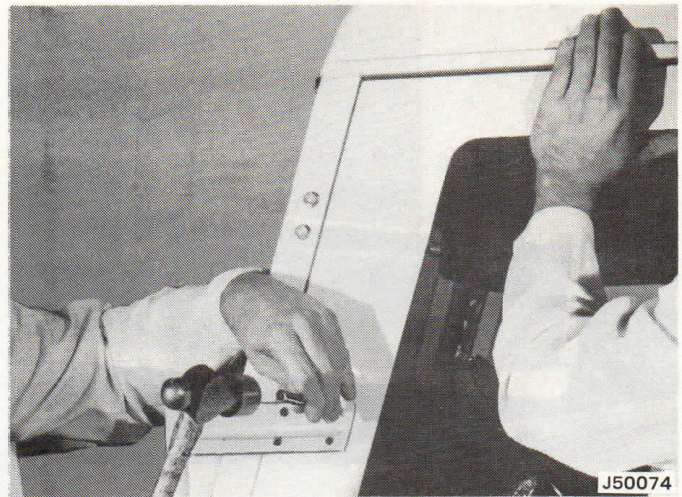
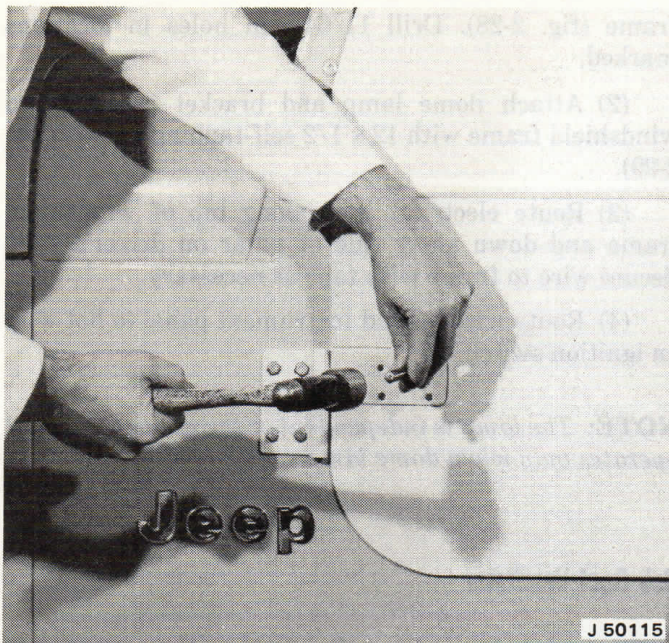

Fig. 2-22 Marking Hole Locations for Upper Male-Half Hinges
Fig. 2-23 Marking Hole Locations for Lower Hinge
(1) Place each door in its respective opening and align so top edge of door is parallel to top of opening and door is as far forward and upward as possible. Hold door in this position and insert upper male-half hinge into upper female-half hinge. Use male-half hinge as template and centerpunch locations for holes to be drilled in door (fig. 2-22).
(2) Drill 9/32-inch hole through door at one of hole locations. Fasten upper male-half hinge to door with bolt and locknut.
(3) Check door alignment and remaining hole locations for proper placement. Drill remaining holes and install bolts and locknuts.
(4) Fit lower female-half hinge onto lower male-half hinge attached to door. Hold doors in proper position and, using lower female-half hinge as a template, mark hole locations on body (fig. 2-23).
(5) Drill 9/32-inch hole through body at one location and fasten lower female-half hinge with bolt and locknut.
(6) Check door alignment and remaining hole locations for proper placement. Drill remaining holes through body and install bolts and locknuts.
(7) Install doors.